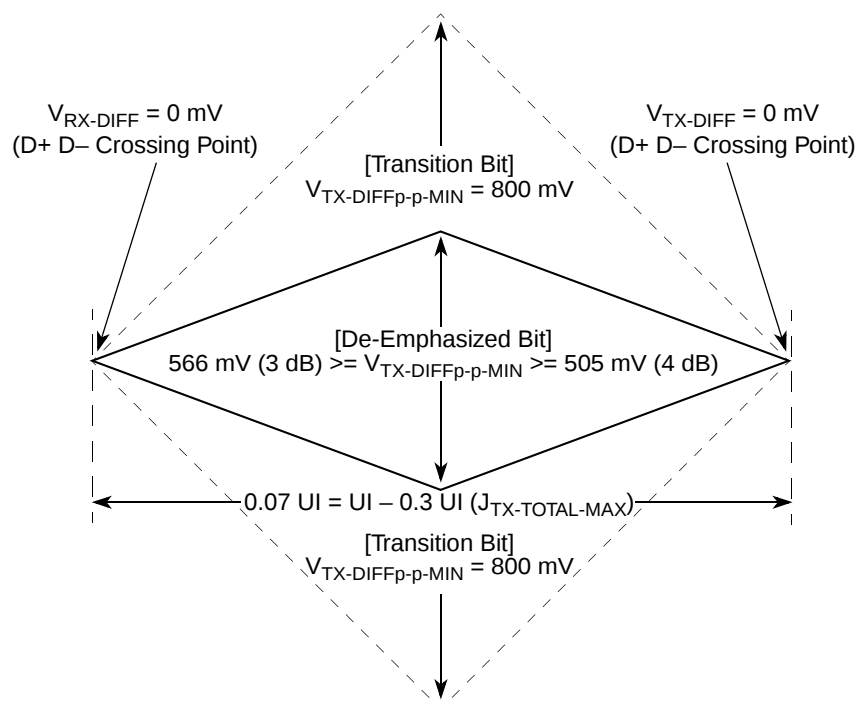
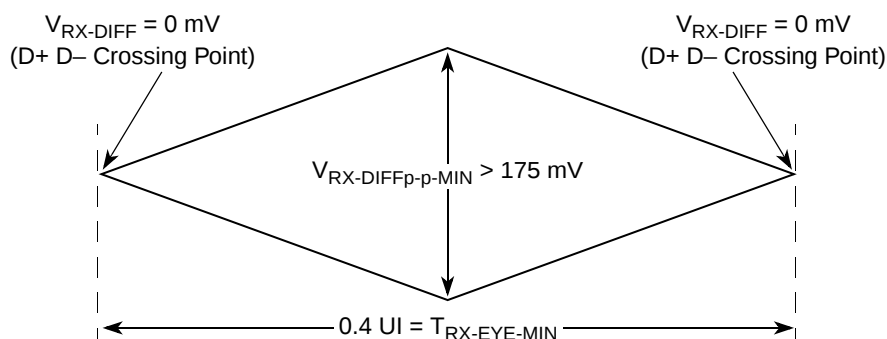
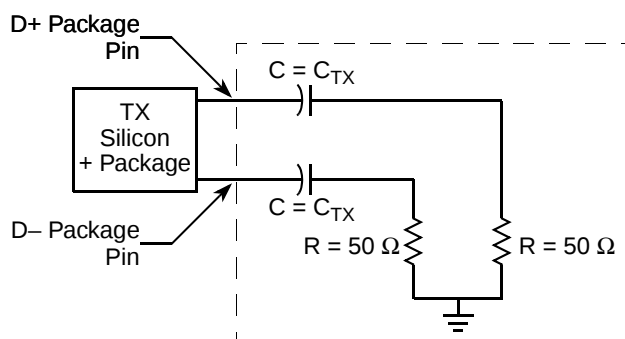

Figure 56. Minimum Transmitter Timing and Voltage Output Compliance Specifications
Figure 57. Minimum Receiver Eye Timing and Voltage Compliance Specification
Figure 58. Compliance Test/Measurement Load
2. Specified at the measurement point into a timing and voltage compliance test load as shown in Figure 58 and measured over any 250 consecutive TX UIs. (Also refer to the transmitter compliance eye diagram shown in Figure 56.)
4. The transmitter input impedance shall result in a differential return loss greater than or equal to 12 dB and a common mode return loss greater than or equal to 6 dB over a frequency range of 50 MHz to 1.25 GHz. This input impedance requirement applies to all valid input levels. The reference impedance for return loss measurements is 50 Ω to ground for both the D+ and D– line (that is, as measured by a vector network analyzer with 50- Ω probes—see Figure 58.) Note that the series capacitors C_{TX} is optional for the return loss measurement.
5. Measured between 20%–80% at transmitter package pins into a test load as shown in Figure 58 for both $V_{\text{TX-D+}}$ and $V_{\text{TX-D-}}$.
The TX eye diagram in Figure 56 is specified using the passive compliance/test measurement load (see Figure 58) in place of any real PCI Express interconnect +RX component.
2. Specified at the measurement point and measured over any 250 consecutive UIs. The test load in Figure 58 should be used as the RX device when taking measurements (also refer to the receiver compliance eye diagram shown in Figure 57). If the clocks to the RX and TX are not derived from the same reference clock, the TX UI recovered from 3500 consecutive UI must be used as a reference for the eye diagram.
4. The receiver input impedance shall result in a differential return loss greater than or equal to 15 dB with the D+ line biased to 300 mV and the D– line biased to –300 mV and a common mode return loss greater than or equal to 6 dB (no bias required) over a frequency range of 50 MHz to 1.25 GHz. This input impedance requirement applies to all valid input levels. The reference impedance for return loss measurements for is 50 Ω to ground for both the D+ and D– line (that is, as measured by a vector network analyzer with 50- Ω probes, see Figure 58). Note that the series capacitors CTX is optional for the return loss measurement.
The RX eye diagram in Figure 57 is specified using the passive compliance/test measurement load (see Figure 58) in place of any real PCI Express RX component.
In general, the minimum receiver eye diagram measured with the compliance/test measurement load (see Figure 58) will be larger than the minimum receiver eye diagram measured over a range of systems at the input receiver of any real PCI Express component. The degraded eye diagram at the input receiver is due to traces internal to the package as well as silicon parasitic characteristics which cause the real PCI Express component to vary in impedance from the compliance/test measurement load. The input receiver eye diagram is implementation specific and is not specified. RX component designer should provide additional margin to adequately compensate for the degraded minimum receiver eye diagram (shown in Figure 57) expected at the input receiver based on some adequate combination of system simulations and the return loss measured looking into the RX package and silicon. The RX eye diagram must be aligned in time using the jitter median to locate the center of the eye diagram.
The reference impedance for return loss measurements is 50 Ω to ground for both the D+ and D– line (that is, as measured by a vector network analyzer with 50- Ω probes, see Figure 57). Note that the series capacitors, CTX, are optional for the return loss measurement.
The AC timing and voltage parameters must be verified at the measurement point, as specified within 0.2 inches of the package pins, into a test/measurement load shown in Figure 58.